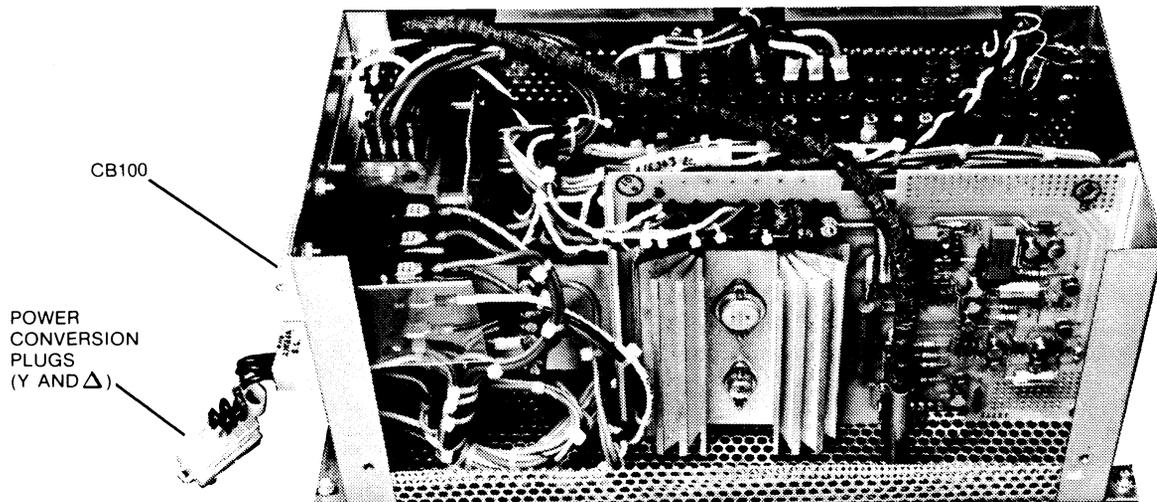

FIGURE 2-8. FRONT VIEW, PDU COVER OFF
5. Check terminal boards in the power distribution unit, located at the front of the drive (see Figure 2-8). To access into the PDU, its cover must be removed by removing two screws and lifting
1. Verify that the Power Conversion Plug Assembly P/N 215766 (shown in Figure 2-8 and in *Illustrated Parts Catalog*, Figure 2-83) has the PHASE TO PHASE connector installed (shown as P110 in *Logic Manual*, page ZA100) regardless whether source is WYE or DELTA.
1. Determine if power source is WYE or DELTA configured. Locate the Power Conversion Plug Assembly P/N 215766 (shown in Figure 2-8 and in *Illustrated Parts Catalog*, Figure 2-83). If source is DELTA, install the PHASE TO PHASE plug. If source is WYE, install the PHASE TO NEUTRAL plug. (Refer to P110 in *Logic Manual*, page ZA100.)
1. Set CB100 on the PDU to ON (see Figure 2-8).